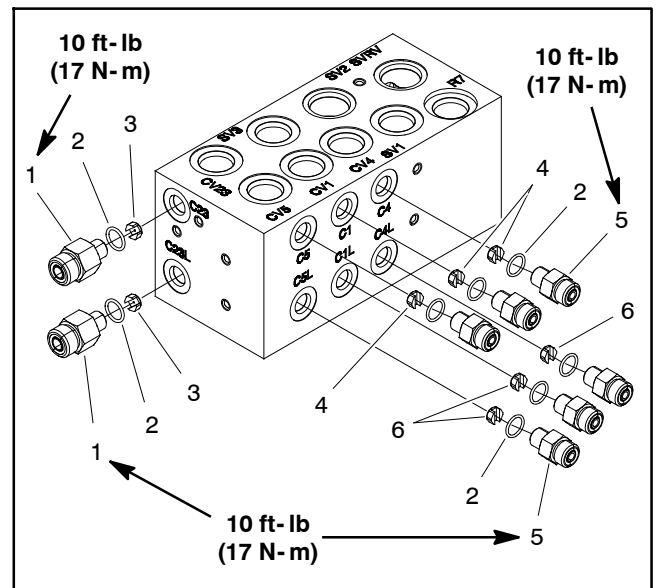

Figure 80
**IMPORTANT:** A flow control orifice is placed beneath several of the hydraulic fittings on the lift control manifold (Fig. 80). The lift manifold uses three (3) different orifice sizes. If a fitting is removed from the lift control manifold and an orifice is in the manifold port, make sure to remove orifice and label its position for assembly purposes.
**IMPORTANT:** When installing orifice in manifold (Fig. 80), make sure that orifice is flat in the base of the fitting cavity. Manifold damage is possible if the orifice is cocked in the cavity.